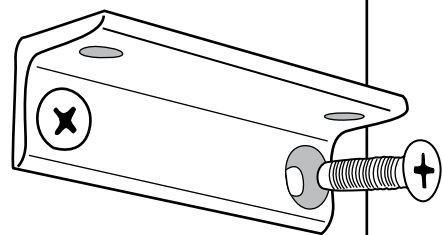

Figure 4
Once the five holes are drilled, attach the panel-mount brackets with four (4) #10 stainless steel countersunk thread-forming Phillips-head screws that are provided (Figure 4).
First, make sure that the power is disconnected from the supply wiring. Next, connect the positive power source wire securely to the red conductor located on the back of the Powerhouse. Then connect the negative power source wire securely to the black conductor located on the back of the Powerhouse. The Powerhouse attaches to the same bracket with the four (4) #10 stainless steel Phillips-head pan screws included in your installation kit (Figure 4). You may have to press gently to compress the four rubber anti-vibration pads on the bottom of the Powerhouse in order to properly seat the screws. Installation is now complete. .